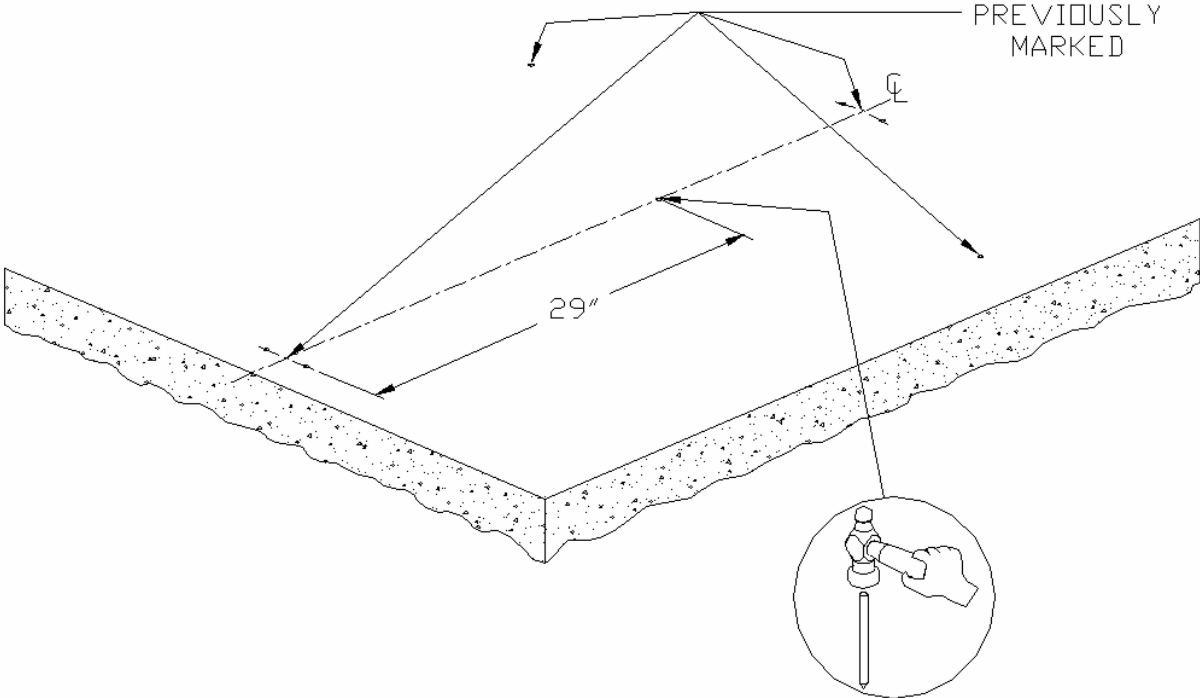

Figure 4
6. Mark lower flange center point to coincide with center of bottom plate. Using punch mark the point on the center line 29" from the center of the barrier post mounting holes. See Figure 4.